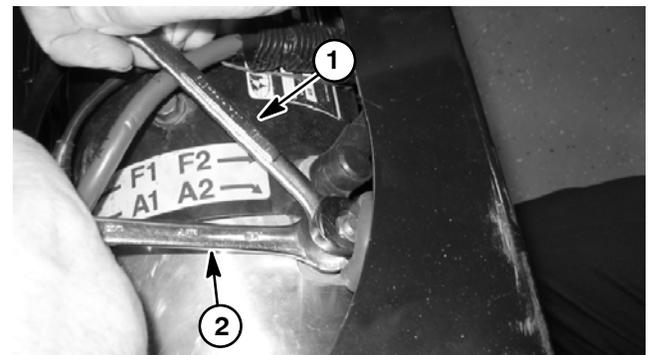

Figure 52
**IMPORTANT:** When removing wires from motor terminals (A1, A2, F1 and F2), use a wrench to retain lower nut while loosening upper nut (Fig. 52). If terminal studs are allowed to turn during upper nut removal, internal motor damage can occur.
5. Align mounting holes of motor, transaxle and transaxle mount plate. Secure motor to transaxle with six (6) socket head screws (item 1) and flat washers (item 2). Torque screws from **125 to 165 in-lb (14.2 to 18.6 N-m)**.
**IMPORTANT:** When connecting wires to motor terminals (A1, A2, F1 and F2), use a wrench to retain lower nut while tightening upper nut (Fig. 52). If terminal studs are allowed to turn during upper nut installation, internal motor damage can occur.